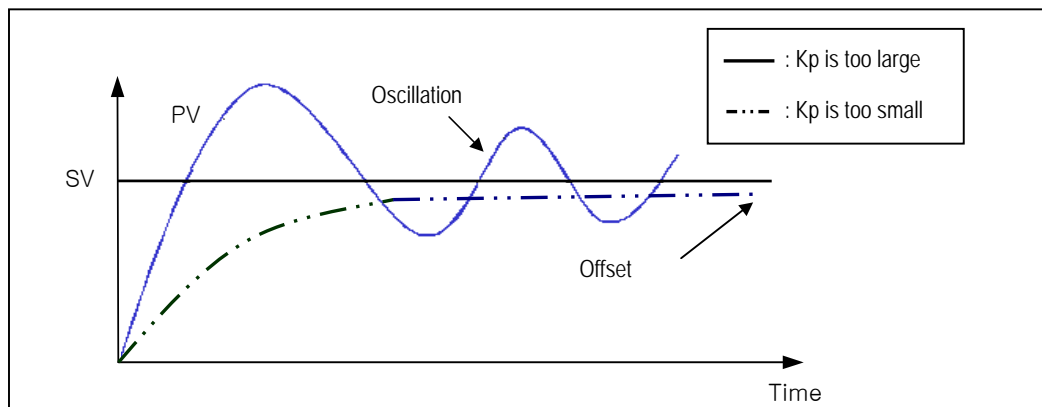

Fig. 7.2 The relation between Proportional constant (K_p) and present value (PV)
- ④ If the K_p is too large, the PV reaches to the SV swiftly, but it may causes a bad effect like oscillations.
- ⑤ If the K_p is too small, oscillation will not occur. However, the PV reaches to the SV slowly and an offset may appear between PV and SV shown in the Fig. 7.2.
- ⑥ The manipulation value (MV) varies from 0 to 4,000. User can define the maximum value of MV (MV_MAX) and minimum value (MV_MIN) within the range 0 ~ 4,000.
- ⑦ When an offset remains after the system is stabilized, the PV can be reached to the SV by adding a certain value. This value is called as bias value, and user can define the bias value